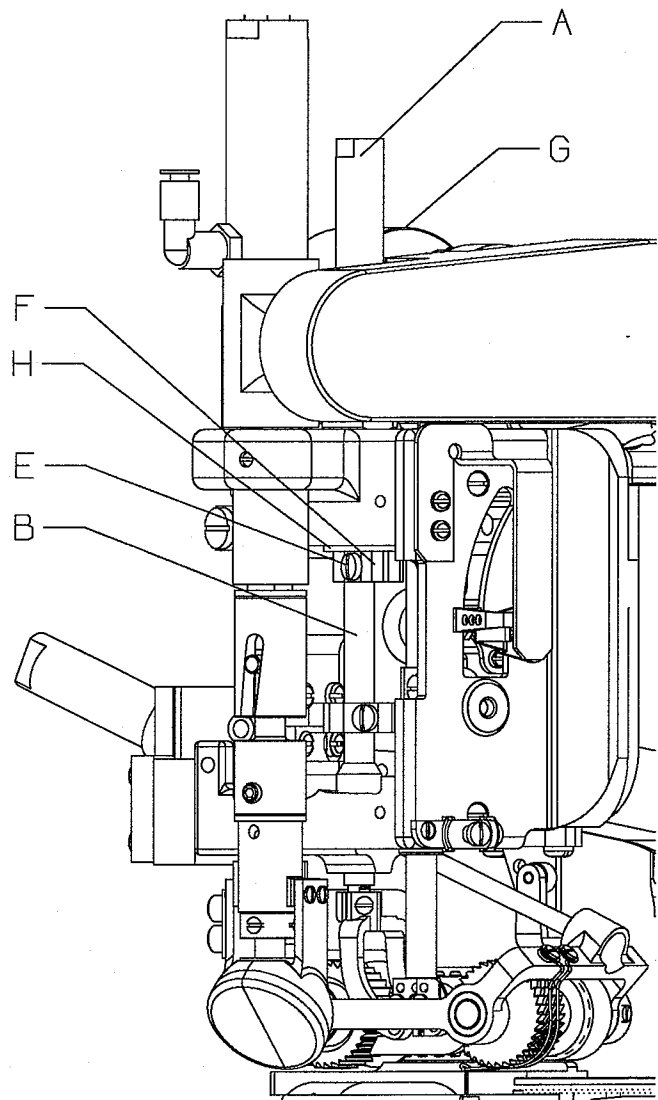

Fig. 2
When presser bar air assembly (A, Fig. 2) and/or presser bar (B, Fig. 2) has been removed or replaced, presser bar stop collar (F, Fig. 2) must be reset. Stop collar must be set so that there is a minimum of $1/32"$ (0.8mm) clearance between top of presser foot (C) and needle bar head (D). The clearance setting must be done with needle bar at bottom of stroke.